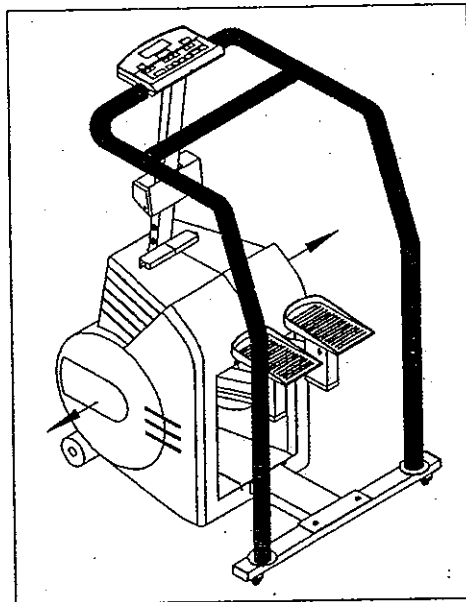

Fig. 7
6. Remove the main shroud (see Fig. 7).